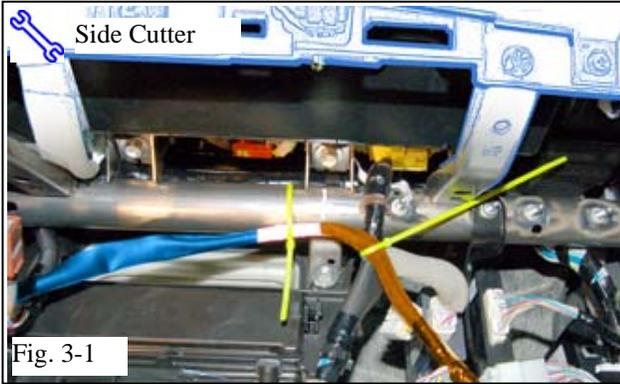

Fig. 3-1
- (a) Secure the WHITE Tape Marker to the Vehicle Brace with 1 Wire Tie. (Fig. 3-1)
- (b) Secure the V4 Harness to the Vehicle Harness with 1 Wire Tie. (Fig. 3-1)